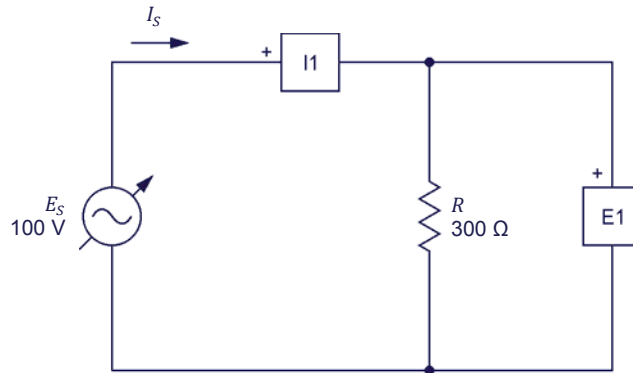

Figure 1-8. AC circuit containing a resistor.
6. Set up the circuit shown in Figure 1-8. Note the symbol used to indicate a variable-voltage ac source in this circuit. In order to obtain the resistance value indicated next to the resistor in Figure 1-8, make the necessary switch settings on the **Resistive Load**.